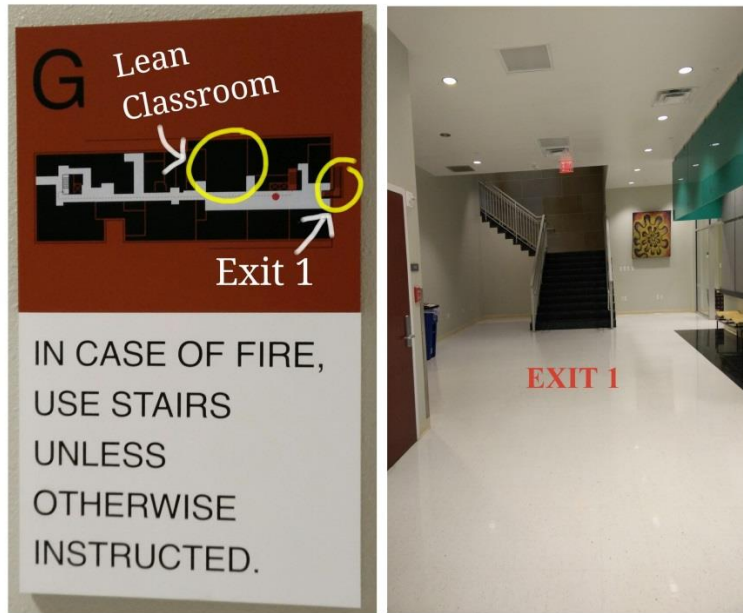

Figure 1: (a) Ground floor layout (b) main stairs exit (exit1)
- By looking at the layout of ground floor of our AET building (see Figure 1), what conclusion I drew out of it was; that the space was meant for parking as it has the stairs exit (see Figure 1) portion perfectly suited for vehicles to roll down and basements always have lot of pillars which could help dividing the parking lot. But the management team might have decided to use the space for classrooms and the basement pillars made it difficult for the construction engineers to split rooms. Hence this was the best they could draw out of it. Now I have no evidence to support my claim, but this could have been a possible scenario or any such similar case plausibly.
- In case of fire, we have fire alarms which would indicate signals and alarm in emergency. We have fire extinguisher to put down small fires. Many sign boards saying to use stairs etc. (see Figure 1). But in case of a natural calamity like earthquake, classrooms down there do not have a direct access to open ground. In such situations people have to travel longer distances to evacuate the premises. And the only visual aid is the exit sign. I would propose incorporating direction signs (visual indicators) for such events too and changing/building doors to have direct access to open space as safety is our first concern.